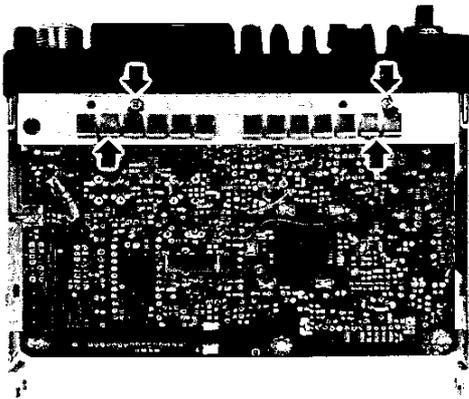

Figure 4a
a) Remove the 4 screws on each of the shield covers on the top and bottom rear edges of the chassis (Figures 4a and 4b), and remove the covers.